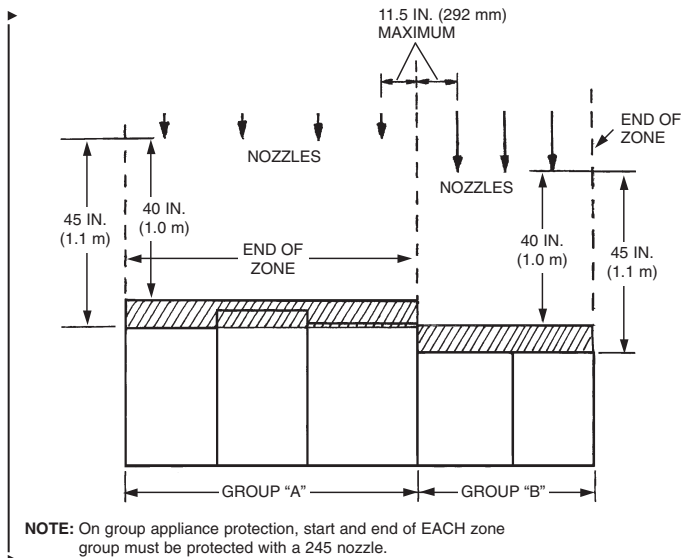

FIGURE 79
4. On protected appliances, all hazard surfaces located in a group must be within 40-45 in. (1-1.1 m) from the nozzle(s). Once that dimension is exceeded, a new group must be started. See Figure 79.